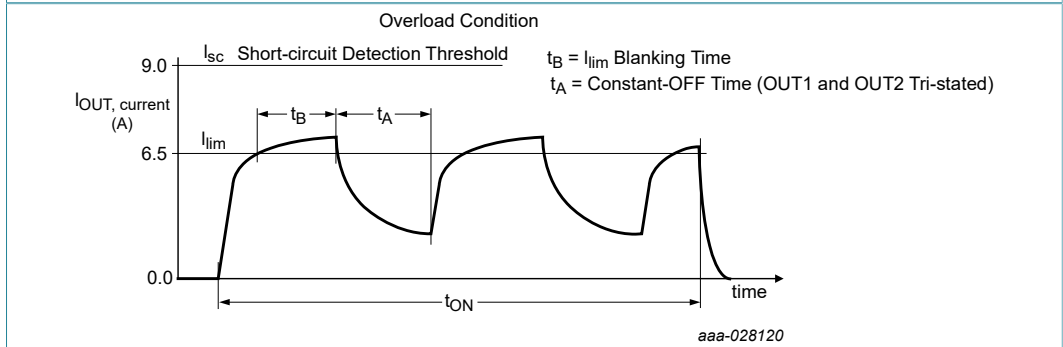

Figure 8. Current limit blanking time and constant-off time
- [9] Load currents ramping up to the current regulation threshold become limited at the I_{LIM} value (see Figure 8). The short-circuit currents possess a di/dt that ramps up to the I_{SCH} or I_{SCL} threshold during the I_{LIM} blanking time, registering as a short-circuit event detection and causing the shutdown circuitry to force the output into an immediate 3-state latch-off (see Figure 9). Operation in current limit mode may cause junction temperatures to rise. Junction temperatures above $\sim 160\text{ }^\circ\text{C}$ causes the output current limit threshold to "foldback", or decrease, until $\sim 175\text{ }^\circ\text{C}$ is reached, after which the t_{LIM} thermal latch-off occurs. Permissible operation within this foldback region is limited to non-repetitive transient events of duration not to exceed 30 seconds (see Figure 10).